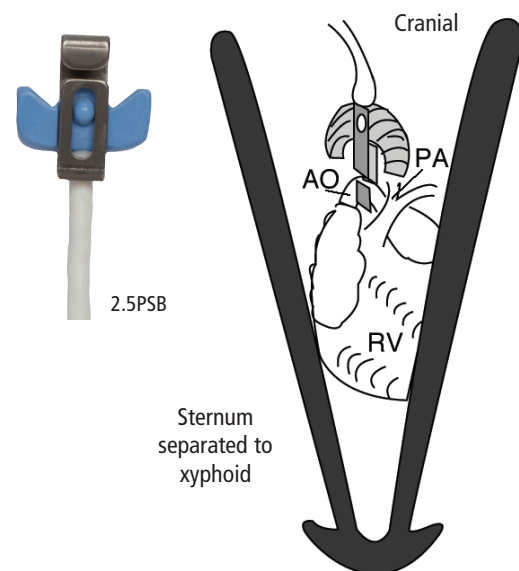

Fig. 1: Schematic of sternum separated to xyphoid.
11. Using the suture, gently guide the aorta into the J-reflector, close the J-reflector, and remove the suture (Fig. 1).